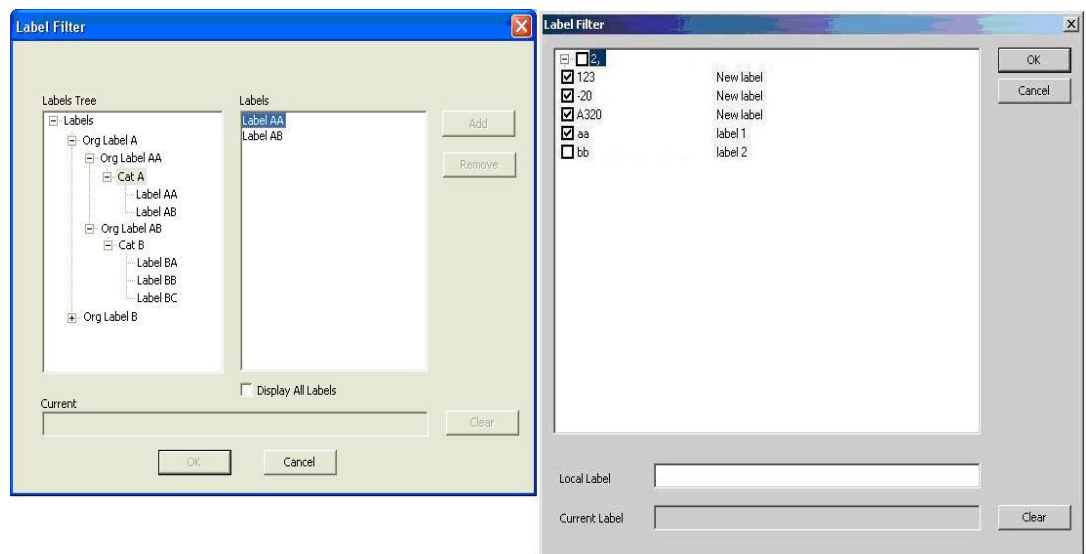

Figure 85: Label Filter Dialog with org and without org labels
3. Project filtering dialog displays the Labels/Label category within their respective structure. *Please refer to the Figure 85.*
- 2) Click  button next to **Label Filter**. The **Label Filter** dialog appears. In this dialog, you can see all available Label filters. *Please refer to the Figure 85.*
The Figure 85 shows the label structure with and without org label in **Label Filter** dialog. In **Label Filter** dialog with org label, the left side category **Labels Tree** structure shows org label under **Labels** folder, Label Categories under org label, and Labels under Label Categories. The right side **Labels** list shows only labels corresponding to selected Label org label/Label Category/labels folder in left side category **Labels Tree** structure.